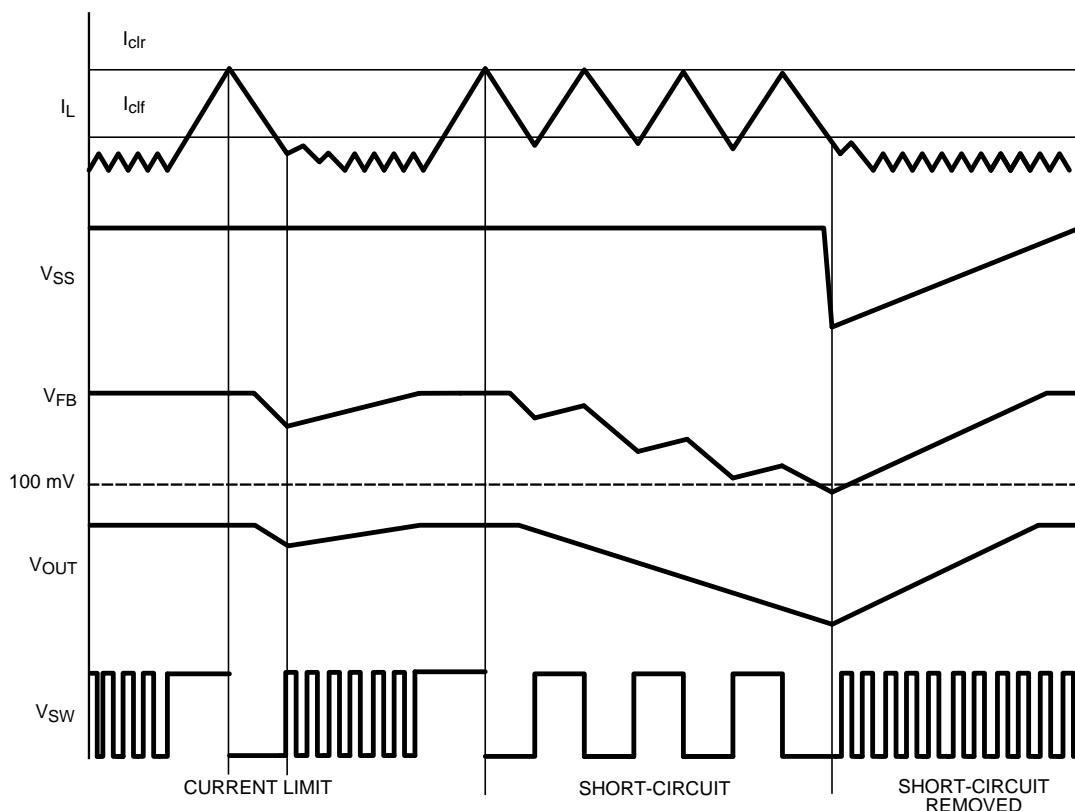

Figure 23. Current Limit Conditions
A current limit condition will cause the internal soft-start voltage to ramp downward. After the internal soft-start ramps below the feedback (FB) pin voltage, (nominally 0.6 V), FB begins to ramp downward, as well. This voltage foldback limits the power consumption in the device, thereby protecting the device from continuously supplying power to the load under a condition that does not fall within the device SOA. After the current limit condition is cleared, the internal soft-start voltage ramps up again. Figure 23 shows current limit behavior with  $V_{SS}$ ,  $V_{FB}$ ,  $V_{OUT}$  and  $V_{SW}$ .